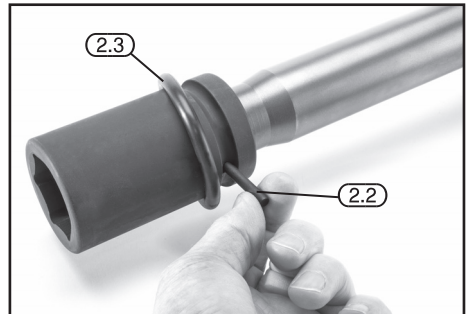

FIG.3
8.4 INSTALLING AND REMOVING SOCKETS – FIG.3